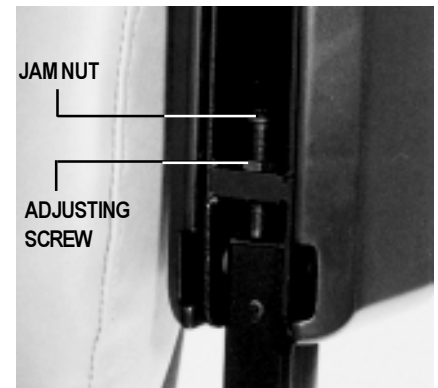

Figure 19. Armrest Angle
2. Use a 7/16-in. wrench to loosen the jam nut. See figure 19.